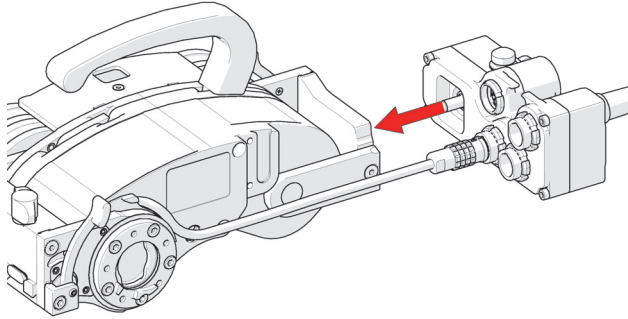

Figure 2-11 Align with drive module mount
2. Align the umbilical to the umbilical mount of the drive module (see Figure 2-11 on page 57).